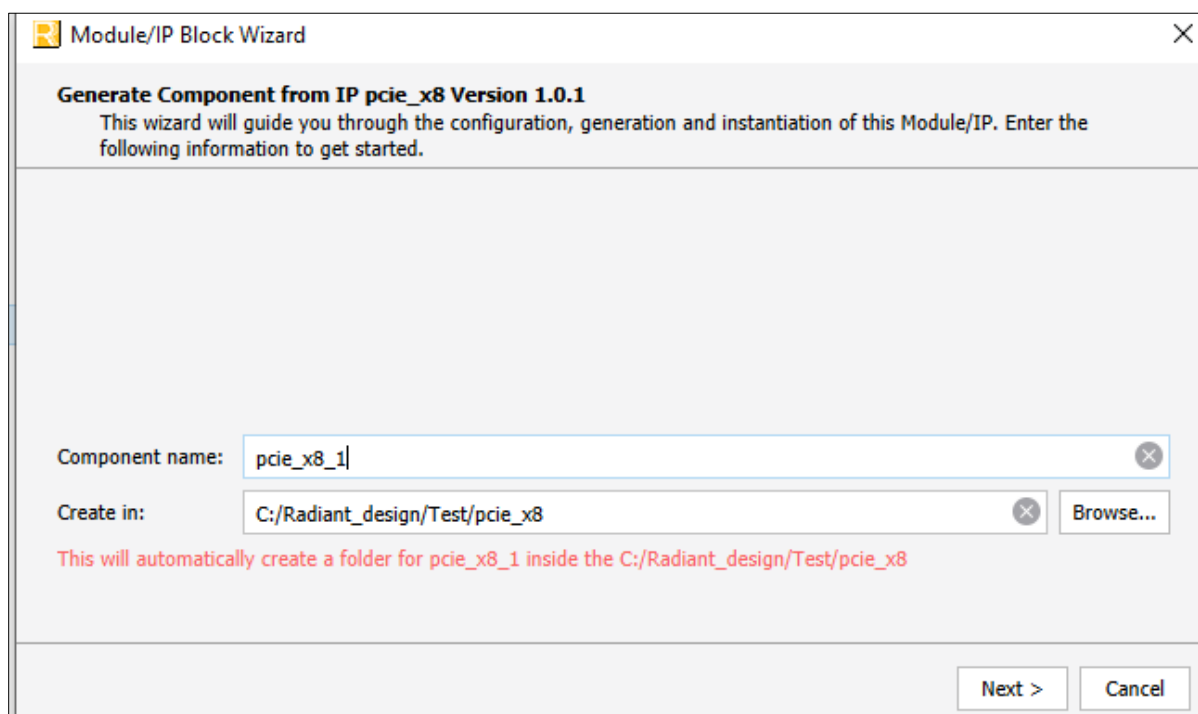

Figure 7.1. Module/IP Block Wizard
2. In the **IP Catalog** tab, double-click **PCI Express for Avant-G/X** under **IP, Connectivity** category. The **Module/IP Block Wizard** opens as shown in Figure 7.1. Enter values in the **Component name** and the **Create in** fields and click **Next**.
5. Click **Finish**. All the generated files are placed under the directory paths in the **Create in** and the **Component name** fields shown in Figure 7.1.